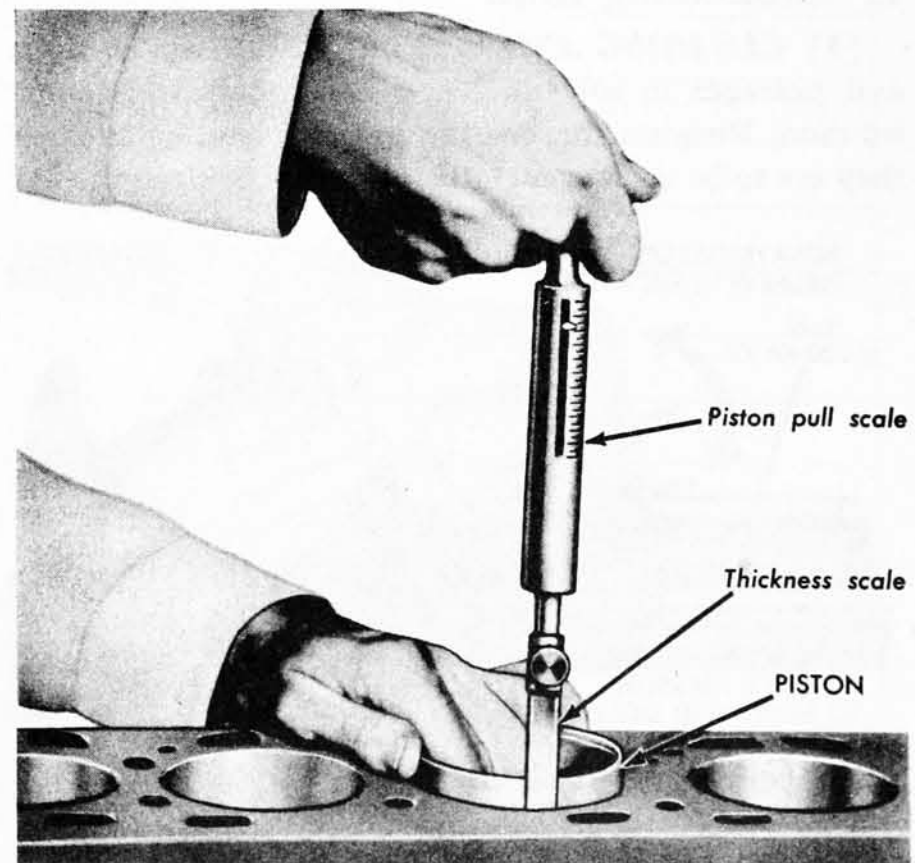

Fig. 37—Piston Fit Check
(3) **FITTING PISTONS.** To fit a piston in the cylinder bore, attach a tension scale to the end of a feeler gauge ribbon (1/2 inch wide) of the proper thickness. Position the feeler on the side of the piston 90° from the piston pin hole. Invert the piston, then push the piston and feeler into the bore so the end of the piston is approximately 1 1/2 inches below the top of the block. Keep the piston pin bore parallel to the crankshaft axis. Hold the piston and pull out the feeler ribbon, noting the reading on the pull scale (fig. 37).